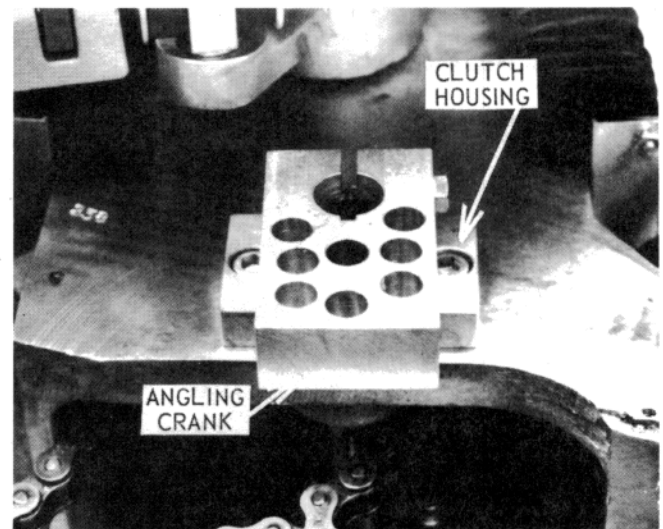

Figure 75 — Angling Crank, Angling Shaft Thrust Bearing, and Angling Shaft Clutch Housing
- 6.1.11 Remove the angling crank, angling shaft thrust bearing, and angling shaft clutch housing (see Figure 75).